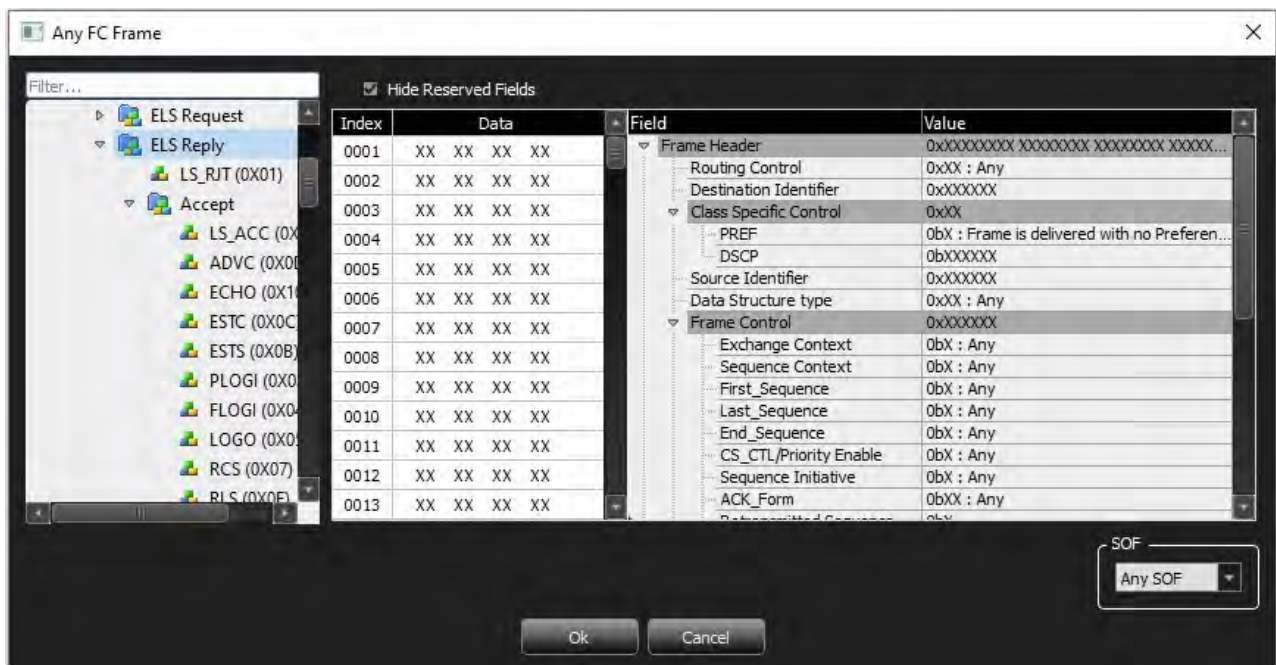

Figure 8.28: Options for Any Frame-Identify Any Frame
because that is the Advance Wait Condition defined for Action A. When the M648 finds the Frame, the script continues executing. See Figure 8.28 for details.
- If you select Action B as a Symbol Event, the following options display (Figure 8.28).